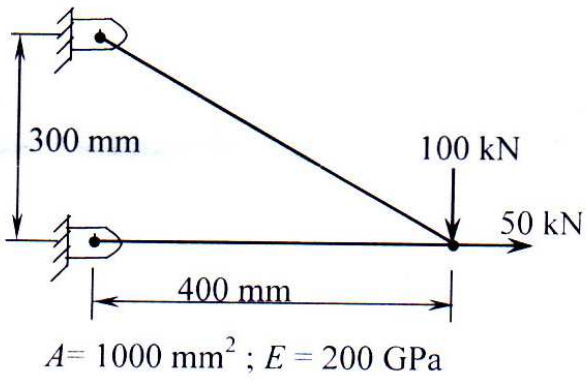

Fig. Q 6
6. For the truss structure shown in Fig Q 6, determine the nodal displacements, stress in horizontal member and reaction at top support. 20